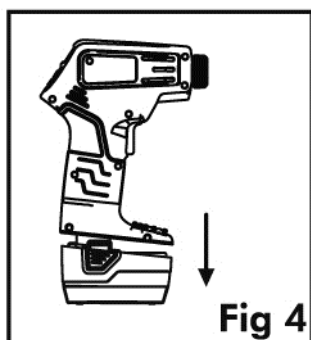

Fig 4
2. If battery is installed, remove from air compressor by pressing locking tabs in and pulling out (See Fig 4).